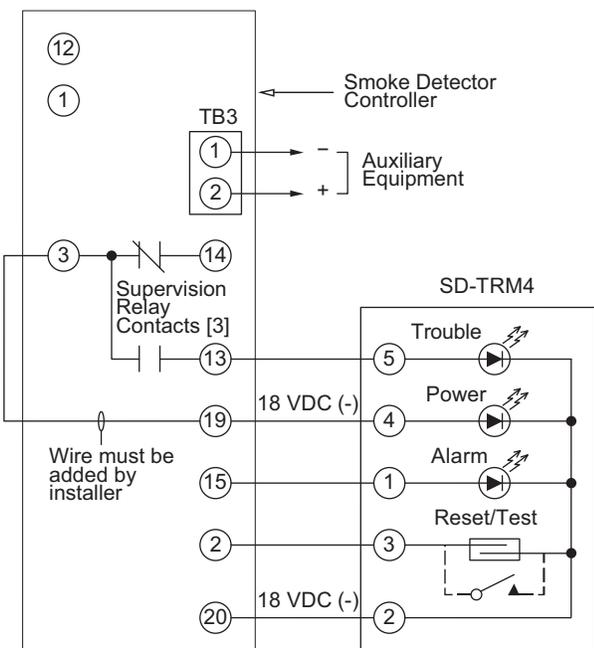

Fig. 51 — Remote Test/Reset Station Connections
The test/reset station dirty sensor test checks the test/reset station's ability to initiate a sensor dirty test and indicate the results. It must be wired to the controller as shown in Fig. 51 and configured to operate the controller's supervision relay. For more information, see "Dirty Sensor Test" on page 42.
1. Verify that the remote test/station is wired as shown in Fig. 51. Repair or replace loose or missing wiring.